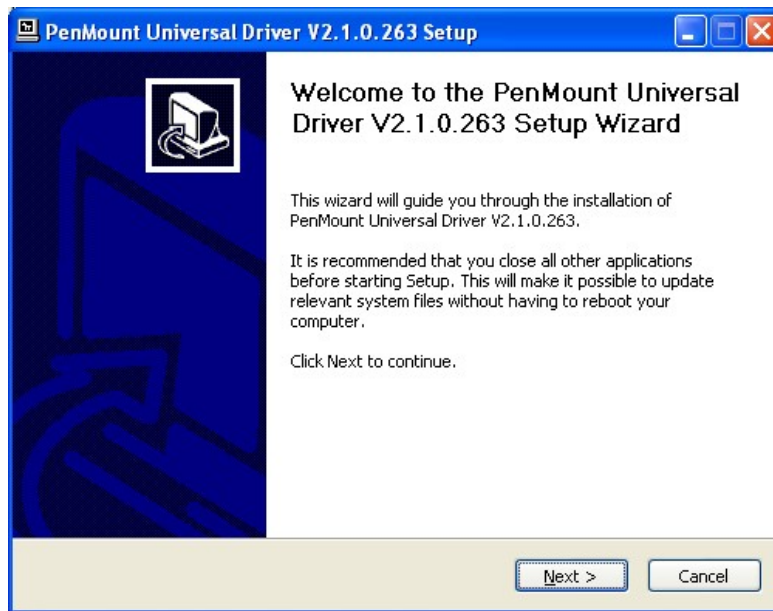

Figure 6-24: PenMount Welcome Screen
Step 4: The **Welcome Screen** appears (**Figure 6-24**).